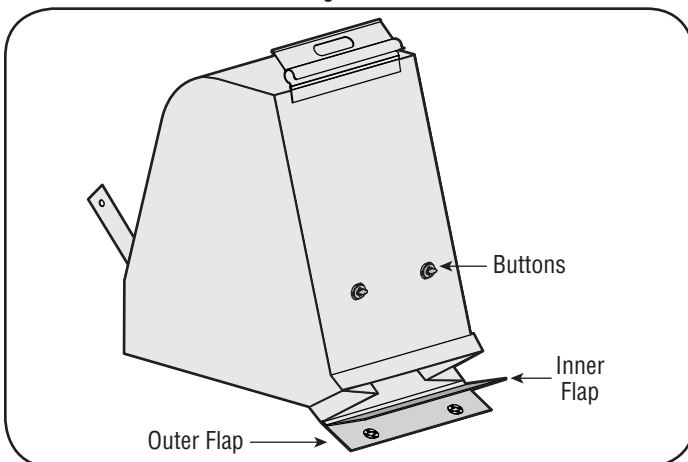

Figure 13
5. Twist the two buttons on the back of the bag to unlock and empty contents. See Figure 13. Hold bag handle and bag clip while emptying the contents.
7. Fold outer flap over inner flap and insert buttons on the bag through metal outlets. See Figure 13.